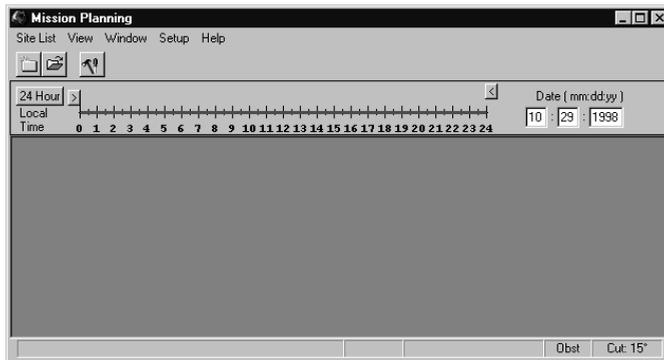

Figure A.1. Mission Planning Main Window
1. From the Windows 95 or Windows NT desktop, from the **Start** menu Programs folder, select **Planning** from the Ashtech Solutions menu. The **Mission Planning** main window opens, as shown in Figure A.1.